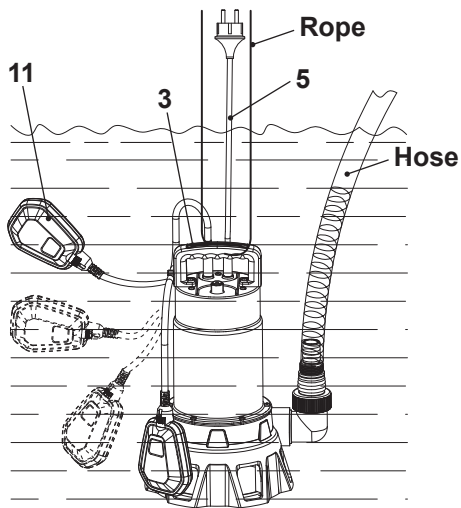

Fig. 4
4. Fasten a rope to the carry handle (3) and submerge the product carefully into the water reservoir (Fig. 4).